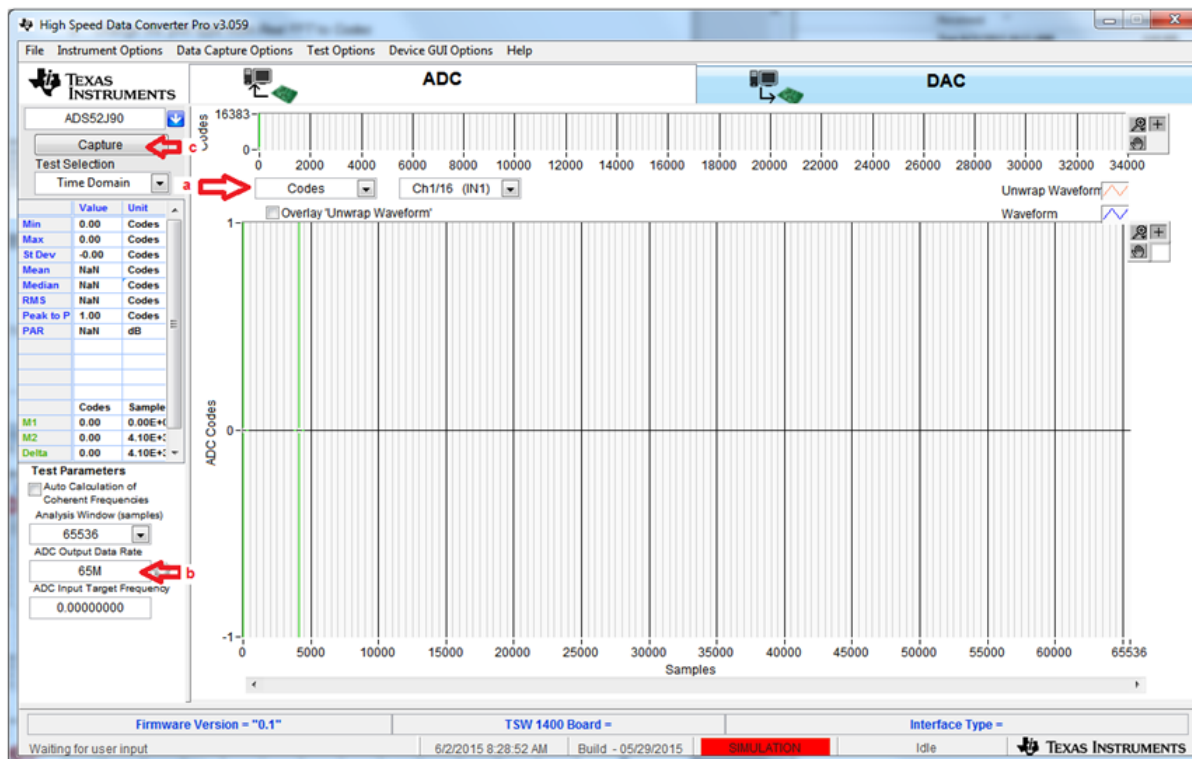

Figure 18. ADS52J90 16-Channel RAMP Capture (a)
4. Return to HSDCpro GUI and perform the following steps as shown in Figure 18 .